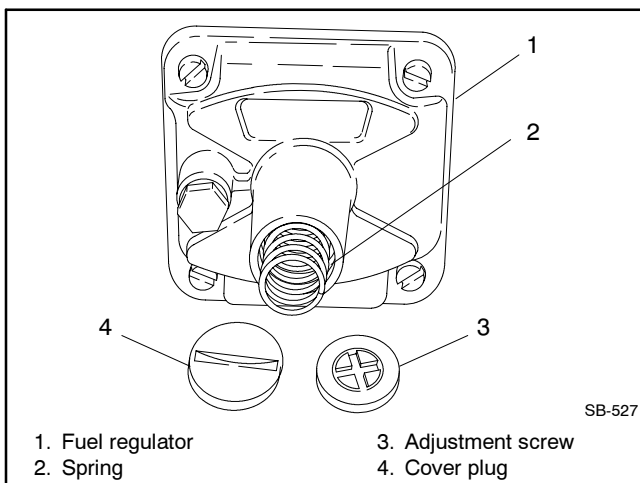

Figure 7-20 Fuel Regulator Components
- a. Remove the fuel regulator cover plug. See Figure 7-20.